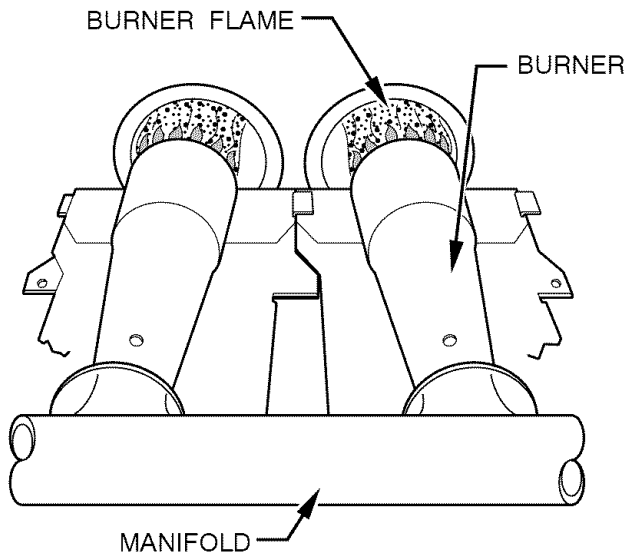

Fig. 15 - Burner Flame
11. When correct manifold pressures are obtained, replace caps that conceal gas valve adjustment screws. Min burner flame should be clear blue, almost transparent. (See Fig. 15.)